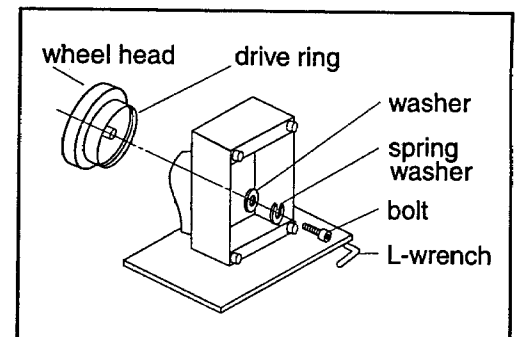

Figure 5
4. Insert L-wrench (provided) and remove bolt on bottom of wheel shaft (figure 5).